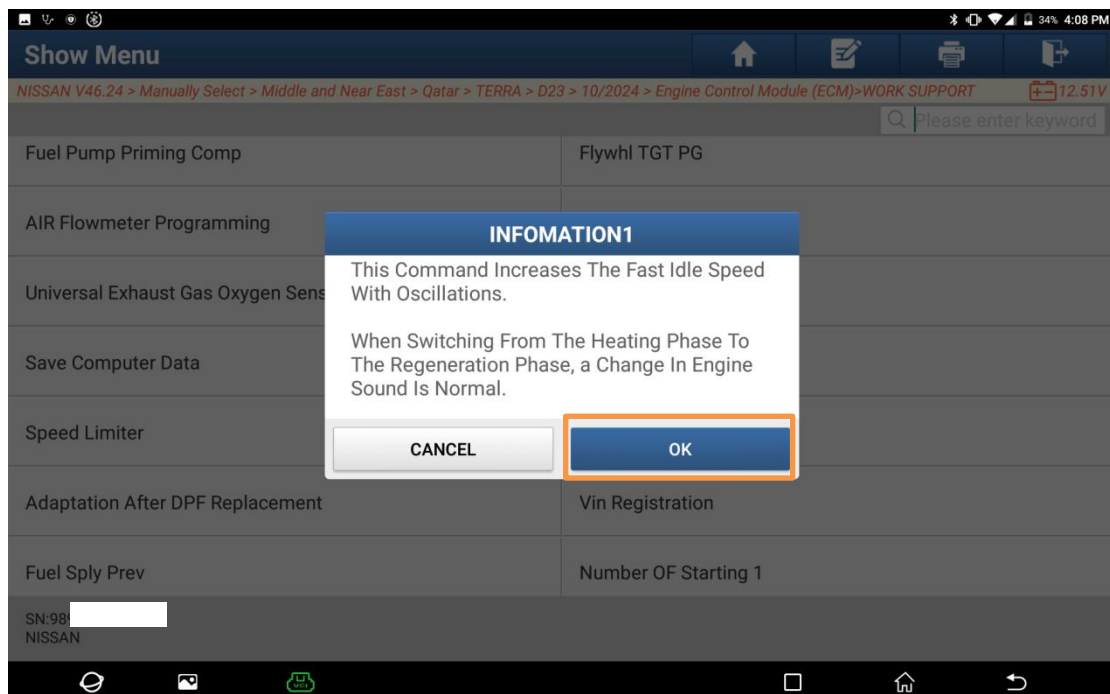

Figure 14
10. Carefully read the pop-up prompt information in Figure 14. This function increases the fast idle speed through an oscillation method. When switching from the heating phase to the regeneration phase, the engine sound will change. Click [OK] to proceed to the next step.